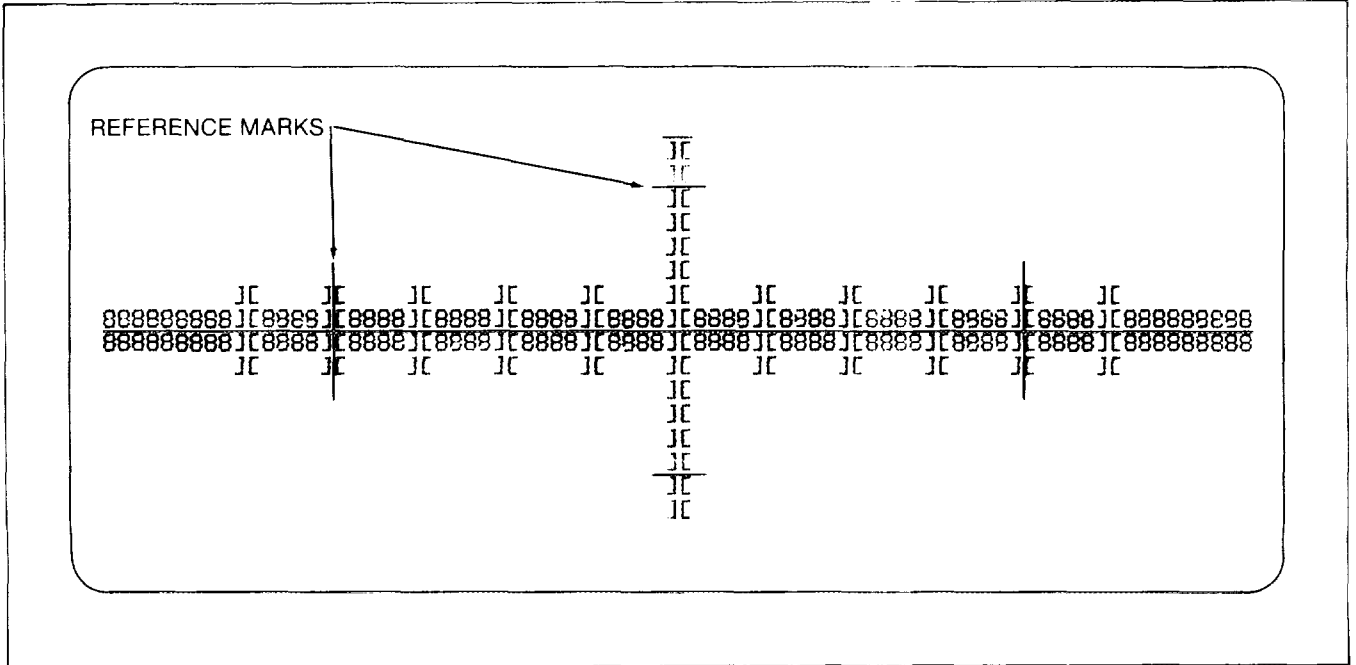

Figure 6-2. Video Alignment Pattern
- c. Set the BAUD RATE switch to the #0 position. The Video Alignment Pattern (Figure 6-2) is displayed.